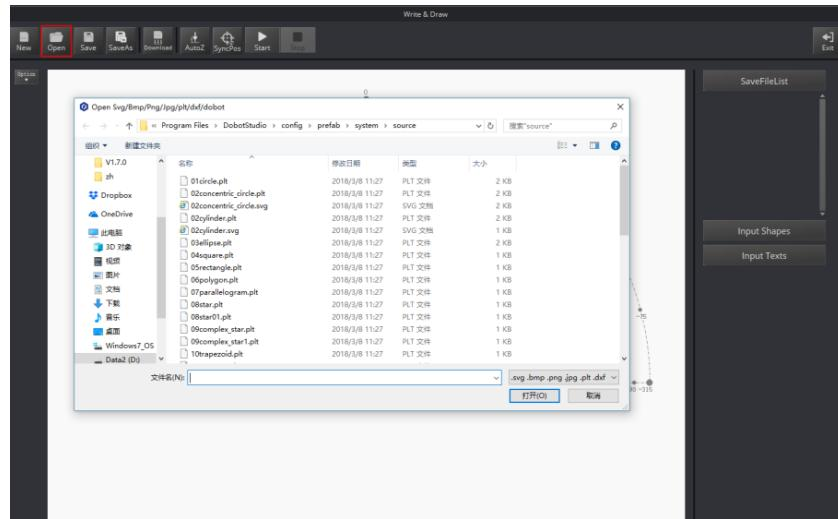

Figure 5.47 Open a PLT or SVG system image file
*InstallatonDirectory\DOBOT\DOBOTStudio\config\prefab\system\source*, as shown in Figure 5.47. You can also import your custom PLT or SVG image file.